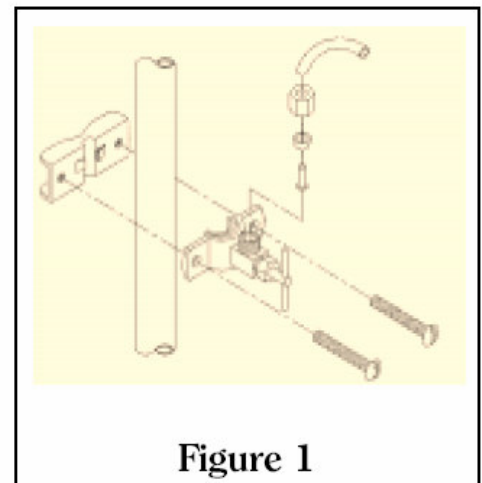

Figure 1
- a. Assemble the saddle tapping valve on the cold water pipe so the outlet is in a convenient direction. See figure 1.
- c. Assemble and place the body of the valve over the hole so the lance fits into the hole. Make sure the outlet is in a convenient direction. See figure 1.